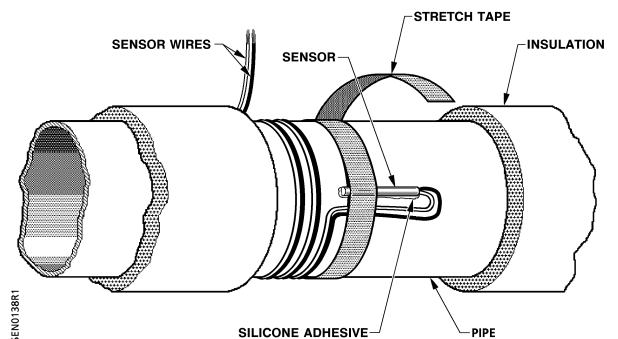

Figure 2. Pipe Temperature Sensor.
3. Using an abrasive tool, clean the surface of the pipe where the sensor is to be mounted to ensure good contact with the pipe. See Figure 2.
6. Bend the sensor wires back along the pipe next to the sensor for strain relief. See Figure 2.
7. Secure the sensor to the pipe with 1-1/2 to three wraps of the stretch tape provided. Stretch the tape about 25% as you wrap it around the pipe. See Figure 2.
8. Wrap the excess sensor wires around the pipe and secure with the stretch tape or duct tape. See Figure 2.